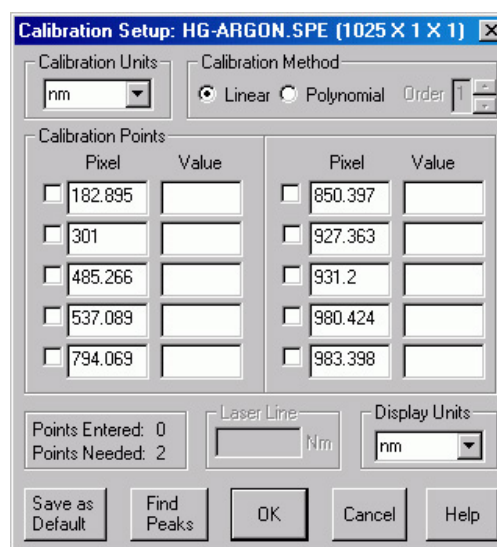
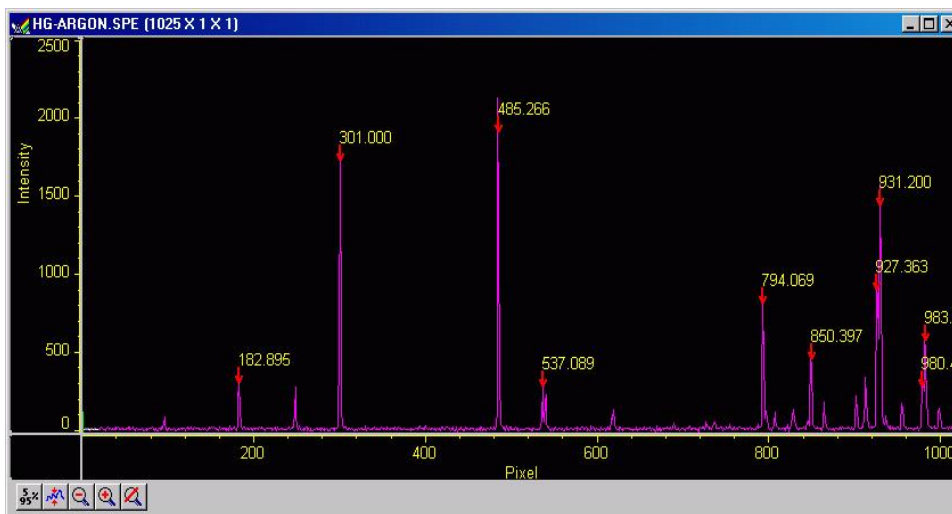

Figure 61. Calibration Setup dialog after running Find Peaks routine on Hg-Argon spectrum
Figure 62. Spectrum after running Find Peaks routine
2. Click on **Find Peaks**. An automatic peak finding routine will be performed. The *maximum* number of peaks is equal to one quarter the number of displayed pixels. The pixel values for the 10 highest peaks will be shown in the Pixel boxes in the Calibration Setup dialog as shown in Figure 61. Note that the Find Peaks routine causes a small red arrow to be displayed above each peak found in the spectrum together with a notation indicating the peak location in pixels (Figure 62).